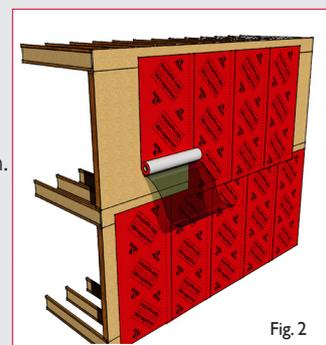

Fig. 2
6. Allow the remainder of rolled up material to drop down - with release liner still attached. Check for proper alignment (Fig.2).